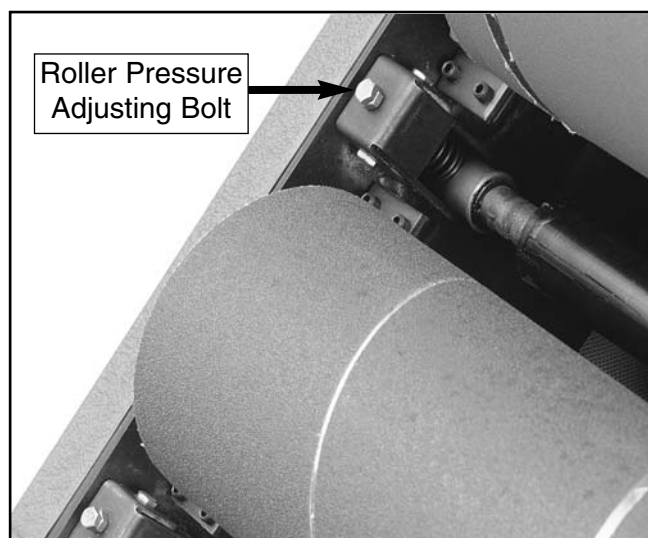

Figure 11. Location of pressure roller tensioners.
3. Loosen the jamnuts on the hex bolts. Turn the hex bolts downward to increase the pressure roller spring tension. See **Figure 11**. Increasing the tension will increase the pressure of the board on the conveyor belt, but will also be less forgiving of irregularities in the board and could cause jamming. You will need to determine experimentally the optimal tension for your stock.